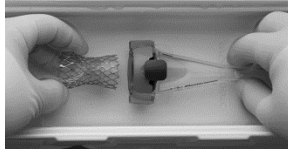

Figure 29
3. Ensure that the backplate has been inserted into the inflow cone and the exposed part of the backplate is facing up (Figure 29).